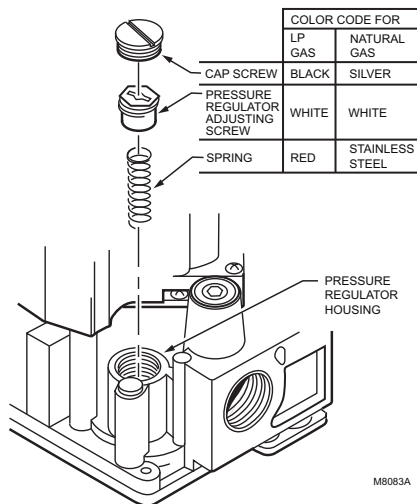

Fig. 2. Installation of conversion kit in regulated gas control.
4. Insert the replacement spring with tapered end down. See Fig. 2.